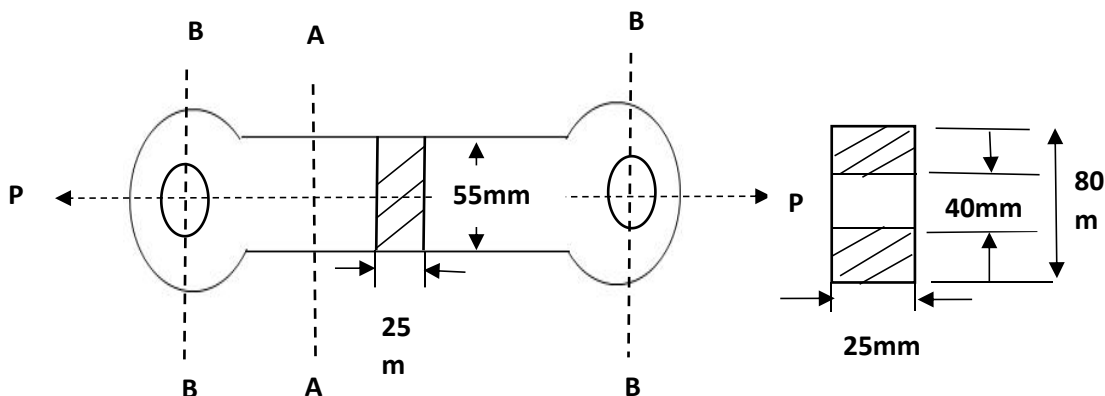

Figure 5
b). A cast iron link as shown in figure 5 is required to transmit a steady tensile load of 60kN. Find the tensile stress induced in the link material at sections A-A and B-B. **[3Marks]**